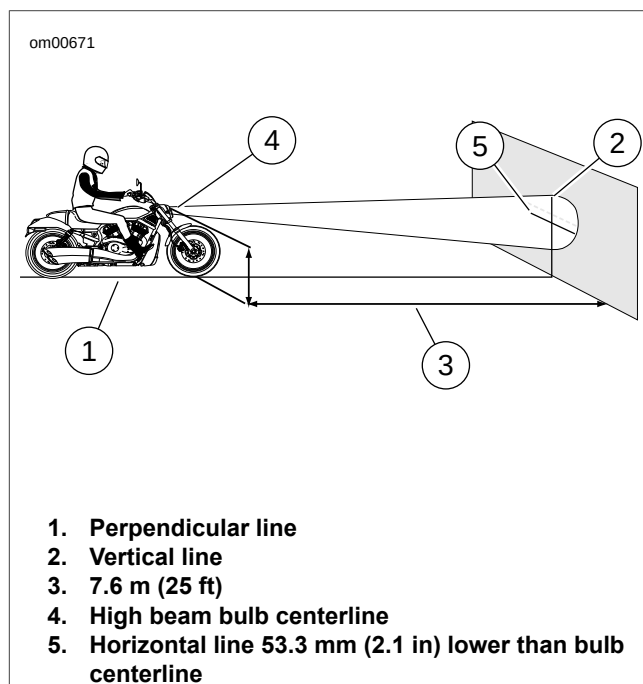

Figure 1-89. Headlamp Alignment
4. See Figure 1-89. Park the motorcycle in a line (1) perpendicular to the wall.
6. Draw a vertical line (2) on the wall.
7. With the motorcycle loaded, point the front wheel straight forward at wall. Measure the distance (4) from the floor to the center of the high beam bulb.
8. Draw a horizontal line (5) through the vertical line on the wall. Place line 53.3 mm (2.1 in) lower than the measured bulb centerline.